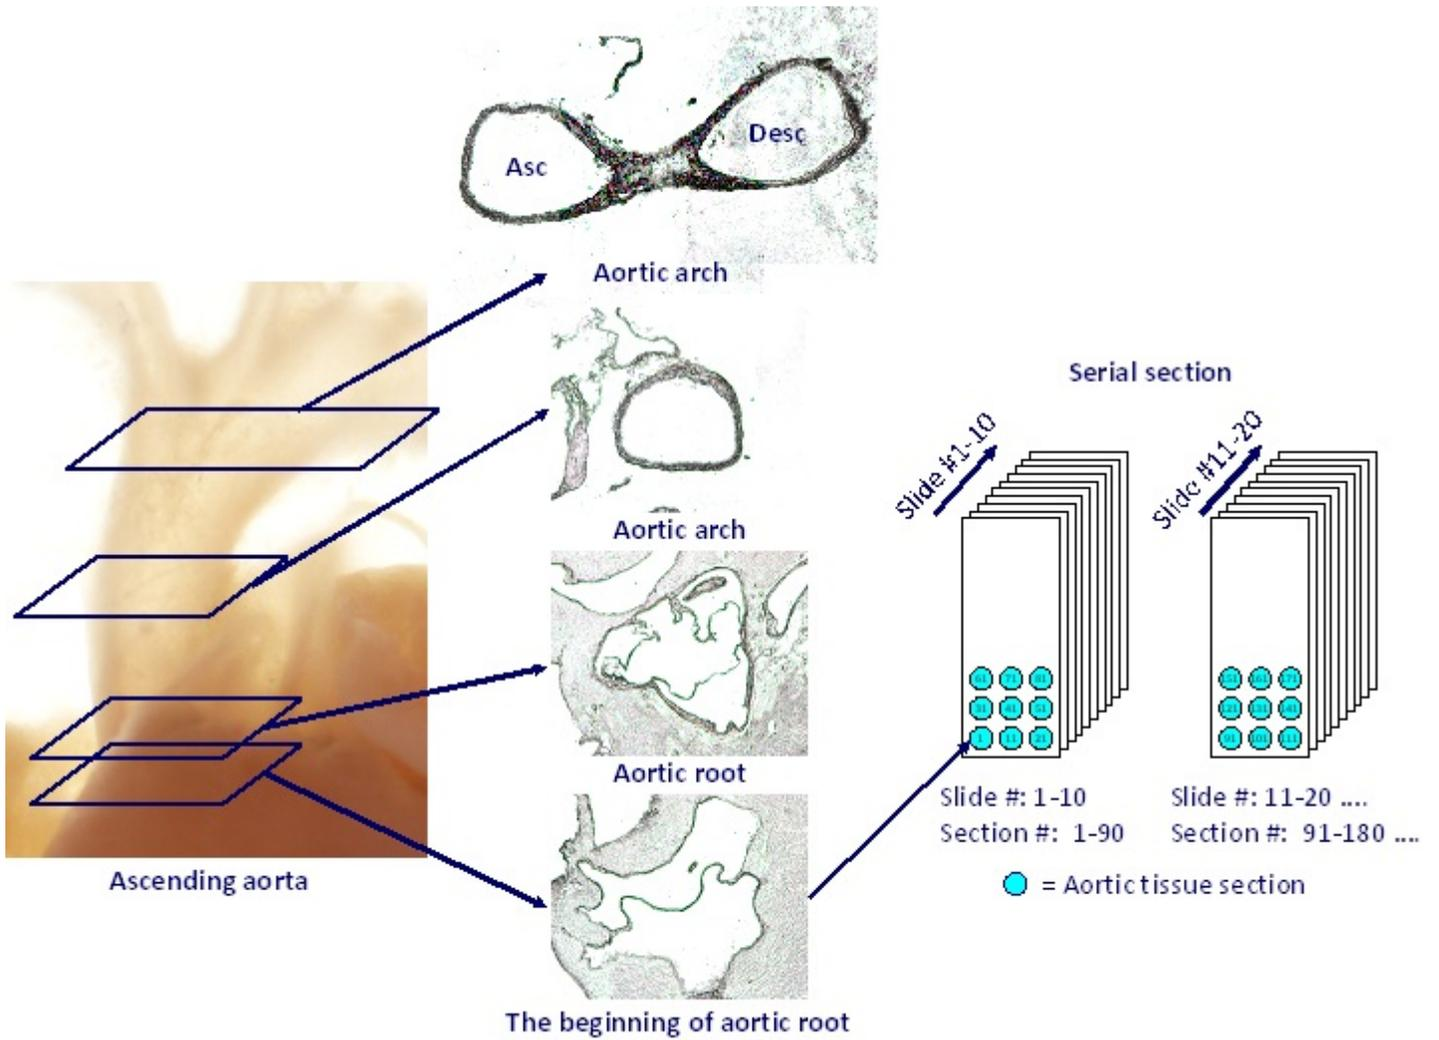

Figure 5.
6. 10 μ m serial sections are collected, 9 sections per slide (see Figure 5).
Stop collecting sections once the ascending and descending aorta meet. Collection does not need to continue when the ascending and descending aorta form the shape of an eight (see Figure 5, 6).